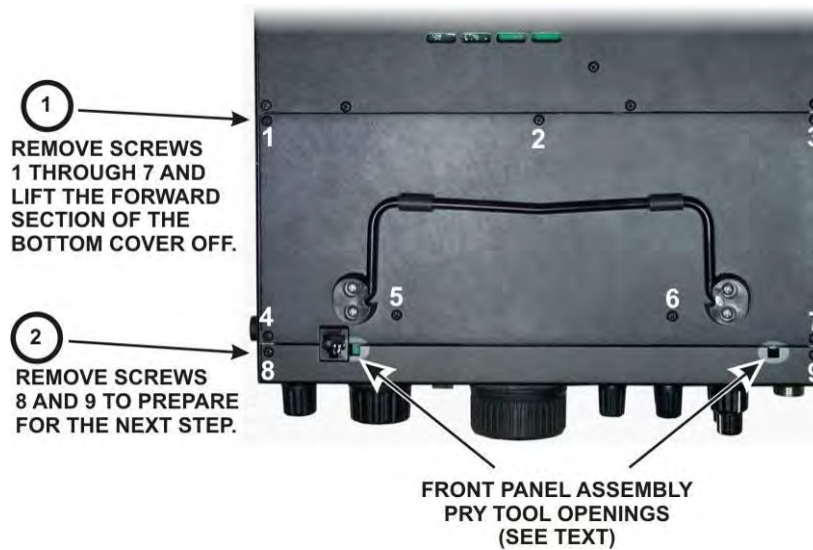

Figure 8. Removing Bottom Cover and Front Panel Screws.
Refer to Figure 8 and remove screws 1 through 7, then lift the forward section of the bottom cover off. Put it in a safe place to avoid scratches.
- Refer to Figure 8 and remove screws 8 and 9.
- If the forward section of the bottom cover is not already off, remove it as shown in Figure 8 on page 16.
☐ Replace the forward bottom cover using seven 3/16" (4.8 mm) black pan head screws (see Figure 8 on page 16).